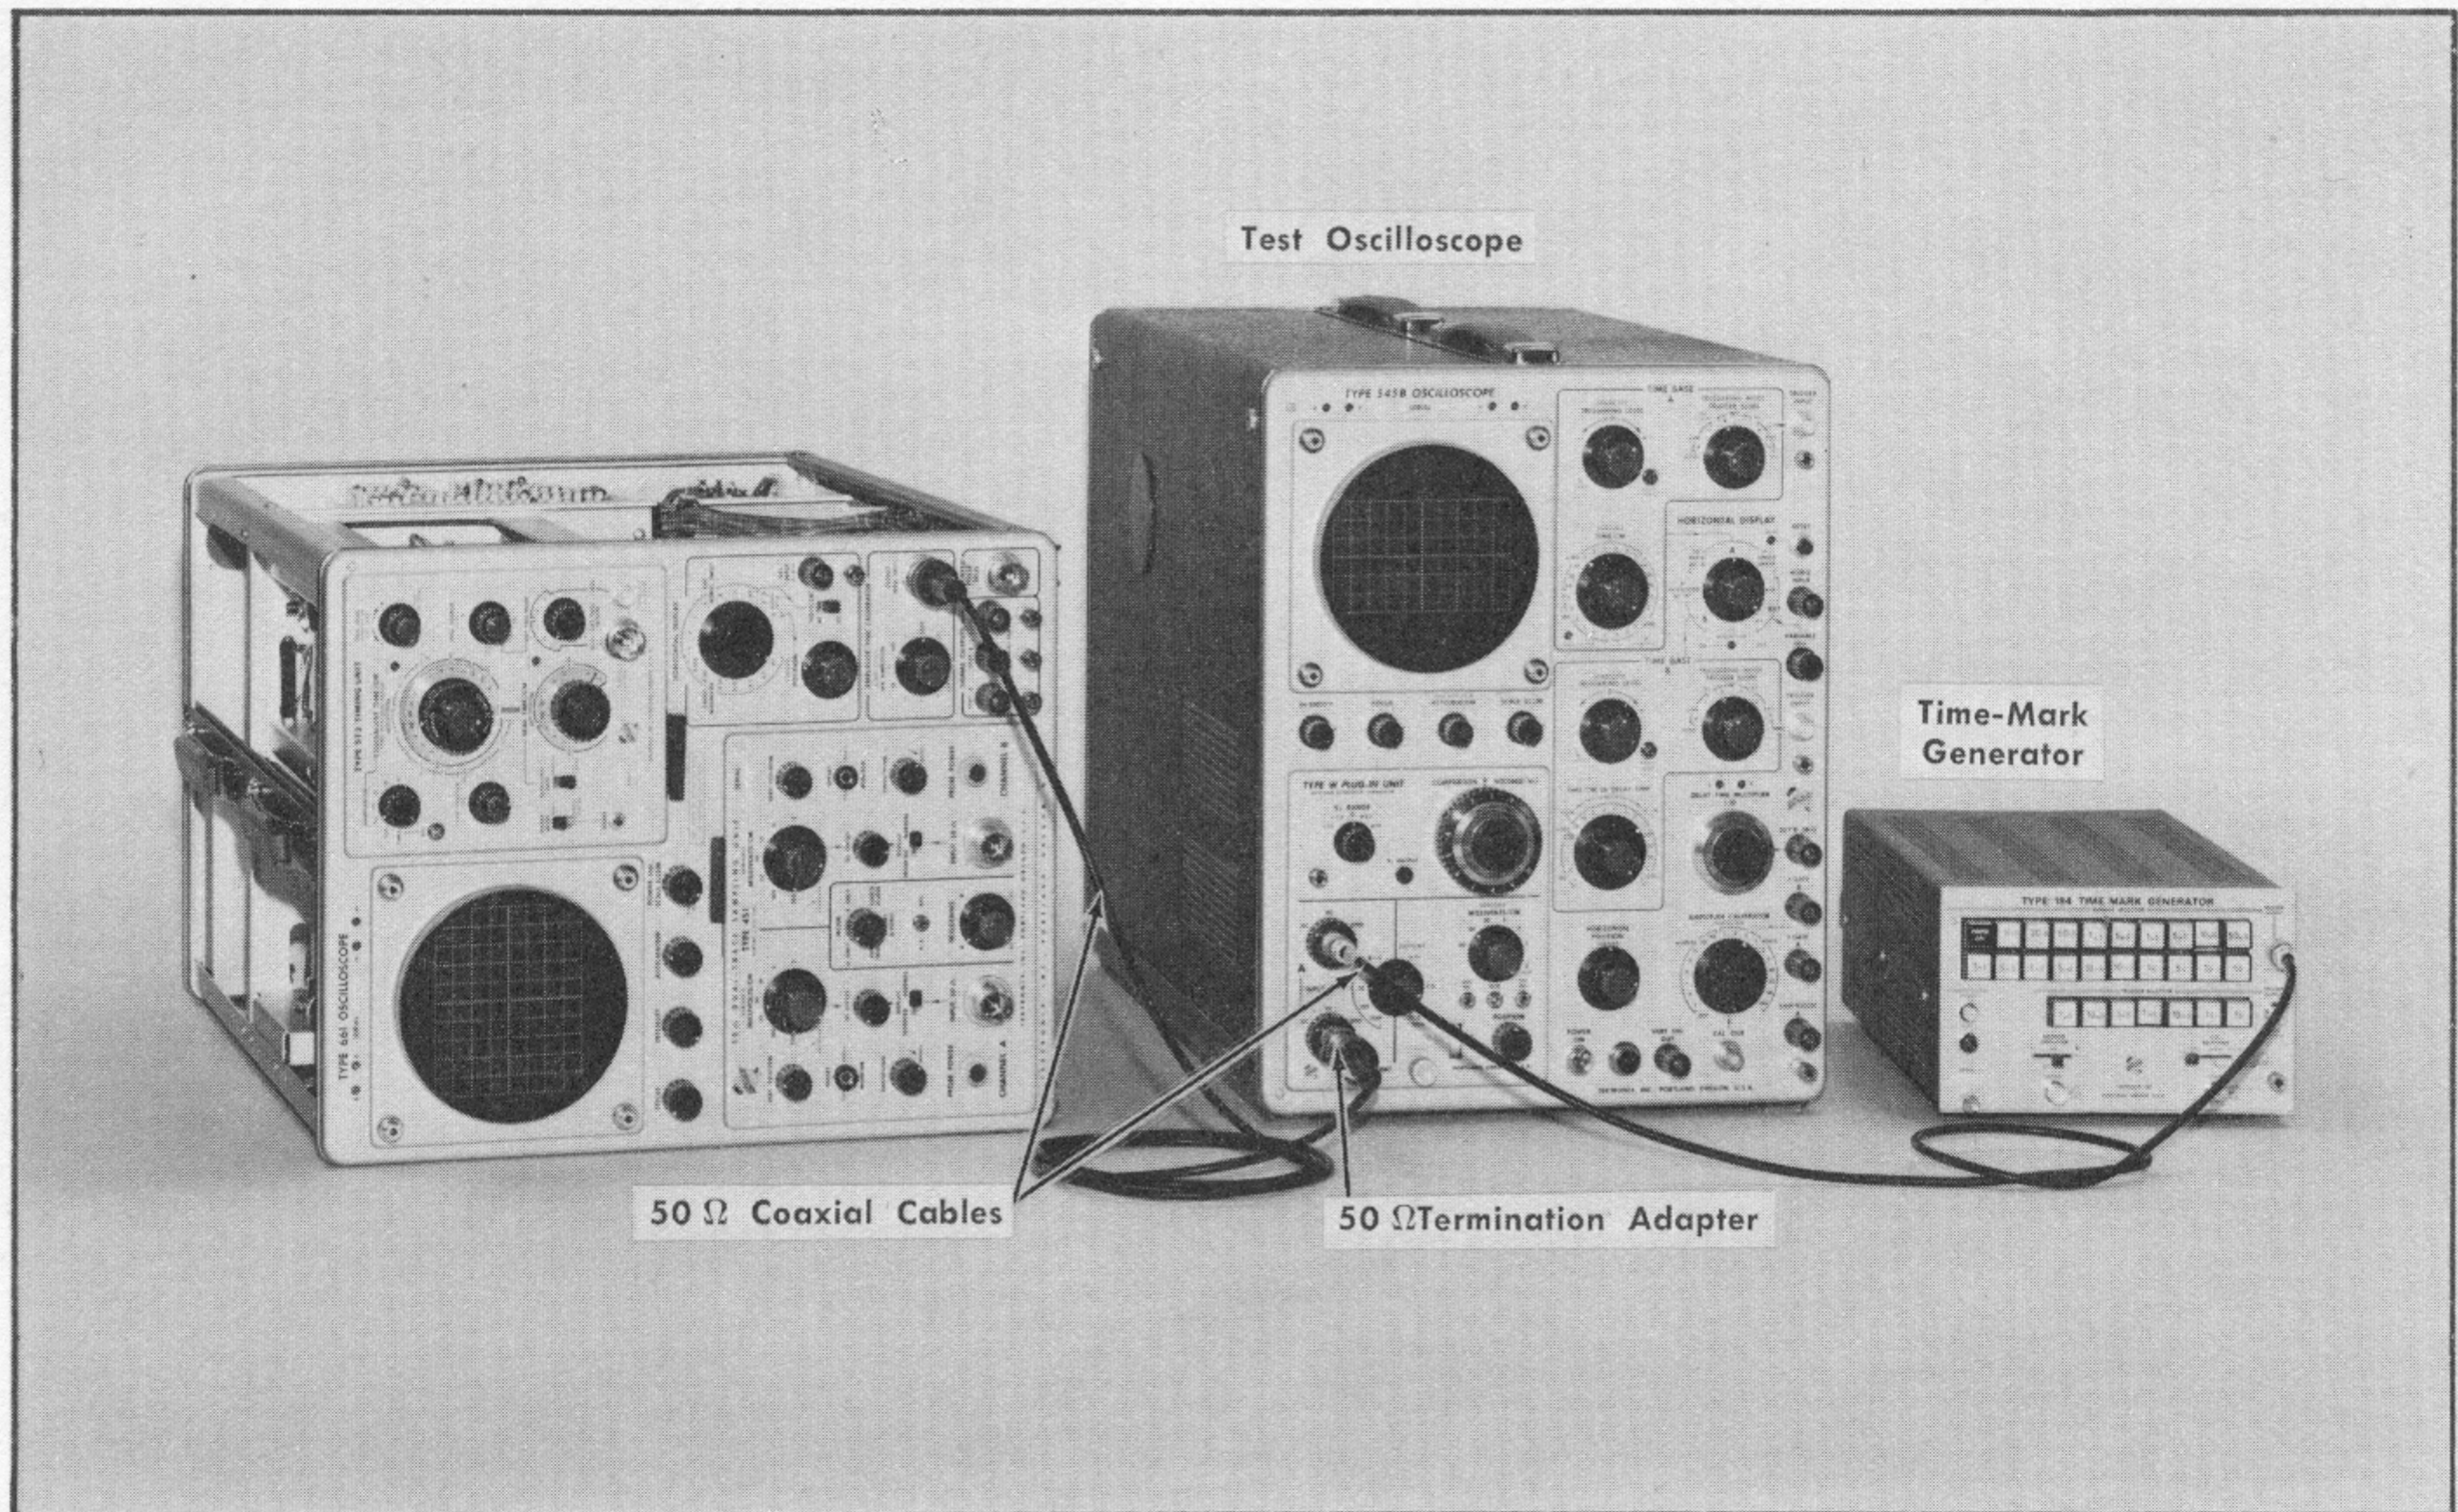

Fig. 6-34. Test equipment setup for step 27.
- a. Set up equipment as shown in Fig. 6-34. Apply 10-μs time markers from the Time-Mark Generator to the test oscilloscope.